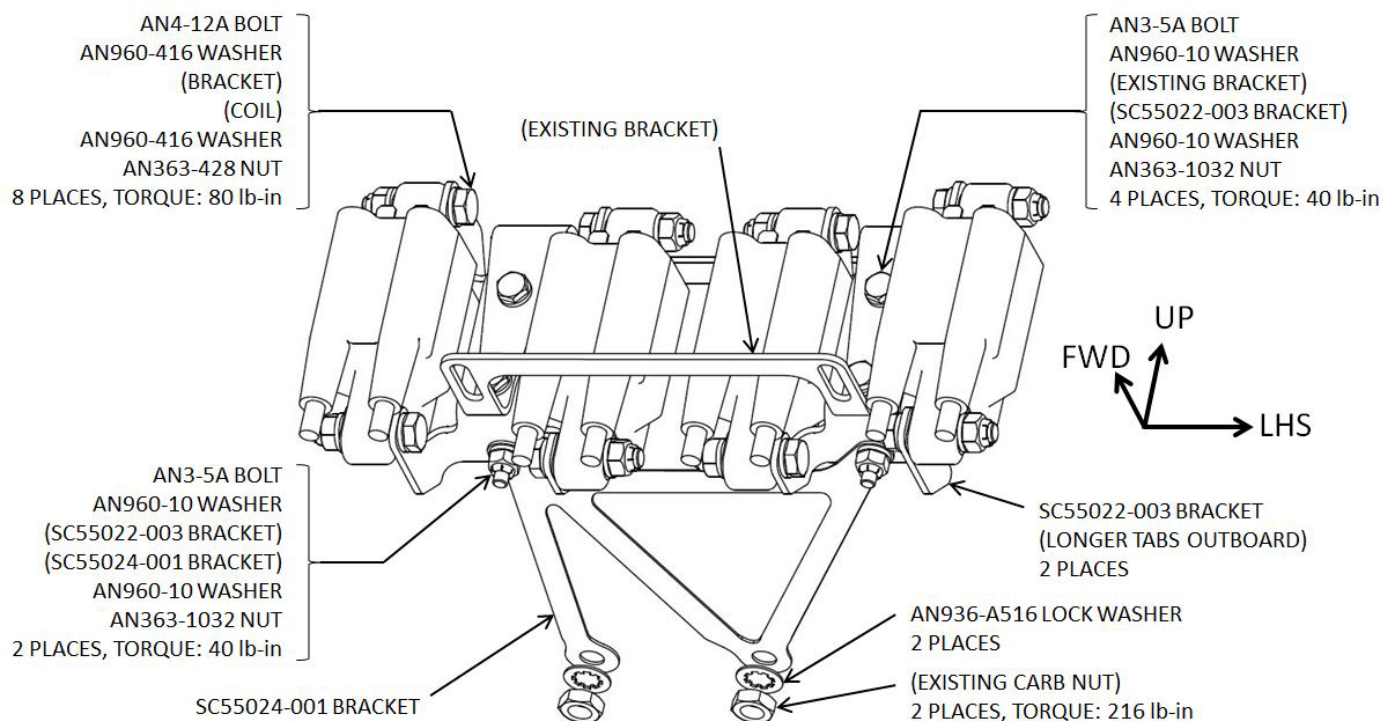

FIGURE 2 – COIL INSTALLATION
- Install SC55022-003 brackets on each of the two vertical portions of the existing bracket as shown in Figure 2. Note that the longer coil mounting tabs on SC55022-003 brackets should be positioned outboard of the existing bracket. (This will position the outer two coils slightly forward of the center two coils).
- Install the new style ignition coils on the SC55024-001 brackets as shown in Figure 2. Note that hardware is easiest to access if the center two coils are mounted on their respective brackets before mounting the brackets in Step 7. The outer two coils should be installed after the brackets are mounted.
- Install the SC55024-001 stay bracket between the SC55022-003 brackets and the two forward carburetor mounting studs as shown in Figure 2. Use the two original carburetor nuts removed in step 5, each with a new AN936-A516 washer. Apply torque stripe after torquing.